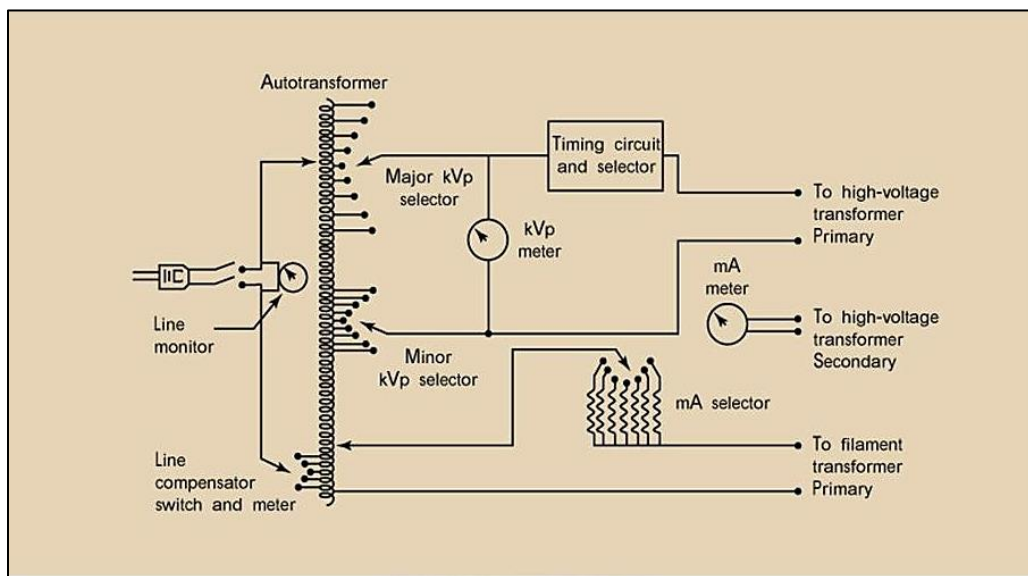

Figure2: console circuit.
The operating console usually provides for control of line compensation, kVp, mA, and exposure time as in figure 2.
- ✚ Another 2 points of the winding of the autotransformer are connected with the wires providing output to the other components (secondary connection). Figure 2 shows the console circuit.